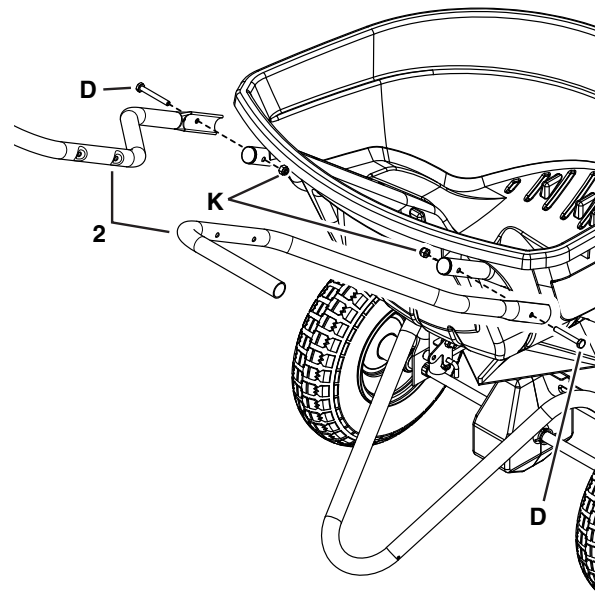

Figure 11
STEP 11: (SEE FIGURE 11)
- Attach the handle tubes (2) to the hopper support tubes using two 1/4" x 1-3/4" hex bolts (D), and 1/4" nylock nuts (K). **Tighten.**